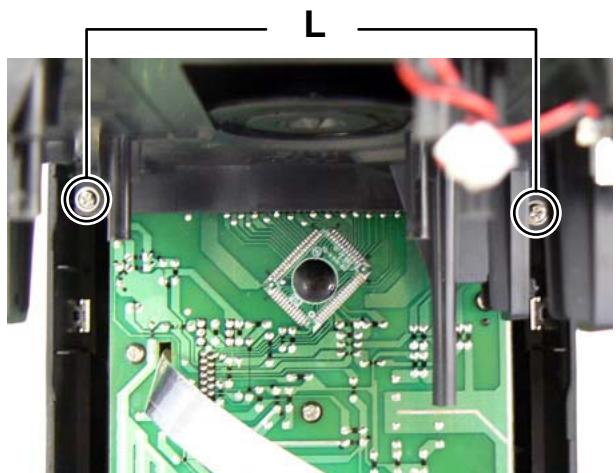

Fig.15
3.1.7 Removing the CD DOOR assembly (See Fig.15)